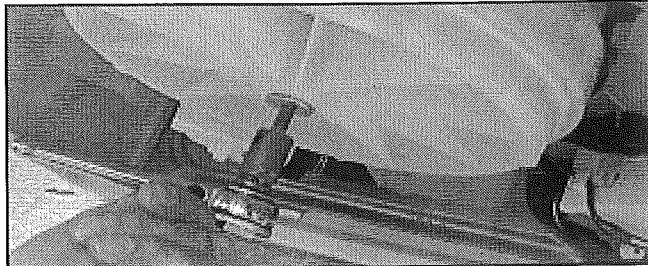

FIGURE 4
- Using a 1/4" Hex Driver, remove rotor bolt and rotor. See *Figure 4*.